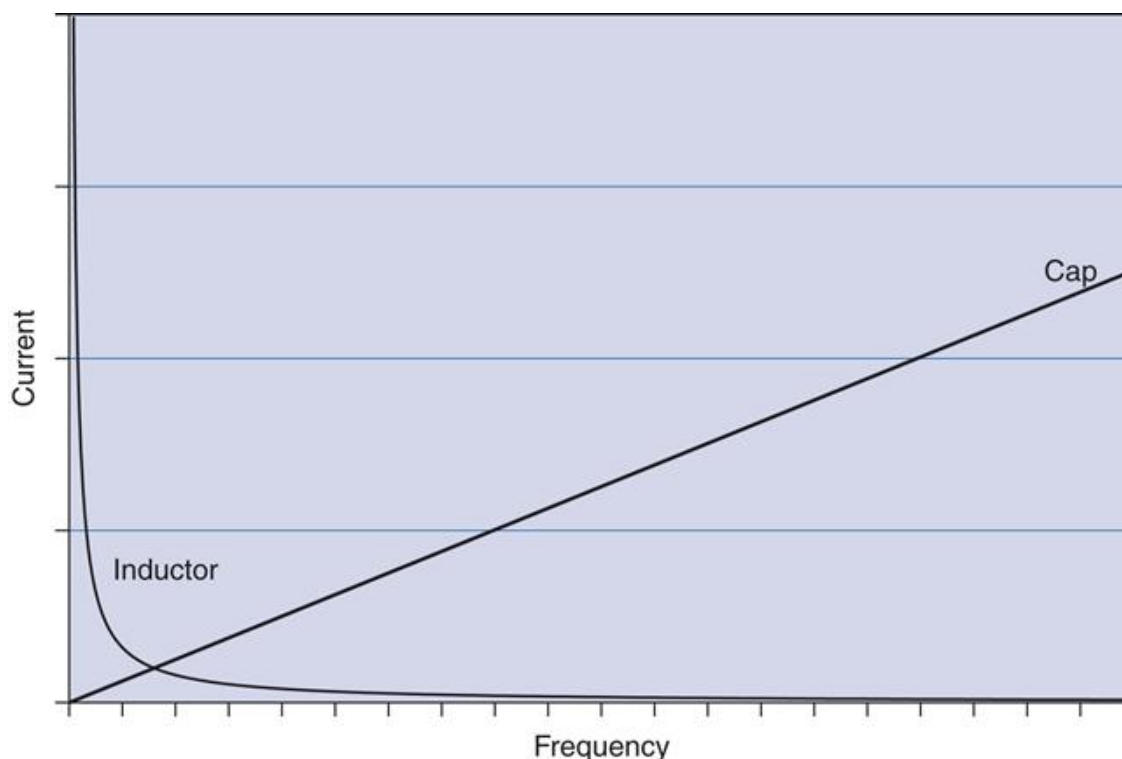

FIGURE 2.31 Graph of current over frequency for a cap and an inductor.
Figure 2.31 shows what happens to current as frequency varies from zero (DC) to really fast (AC) when hooked up to a voltage source.